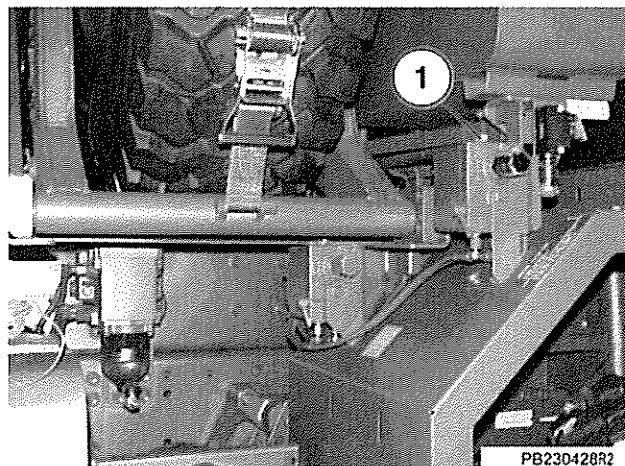

Fig 36 Checking the spare wheel tilt oil level
- 82 Refer to Fig 36. To check the oil level, proceed as follows: